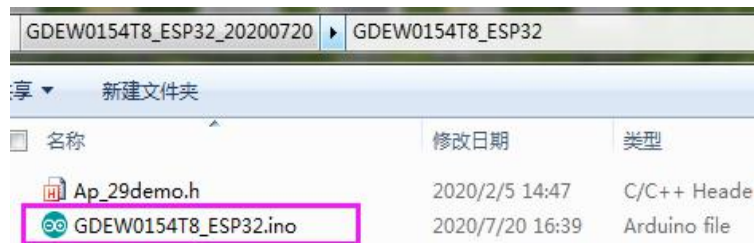

Figure 6 : Open Arduino file
3. Open the Arduino file in the folder shown in Figure 6 with Arduino 1.8.6.